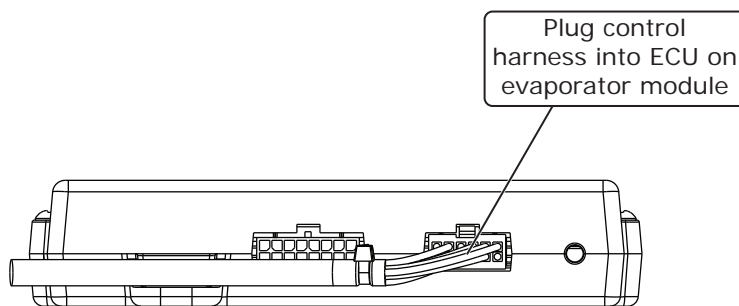

Figure 5
4. Plug the control harness into the ECU on the evaporator module as shown in Figure 5, below.